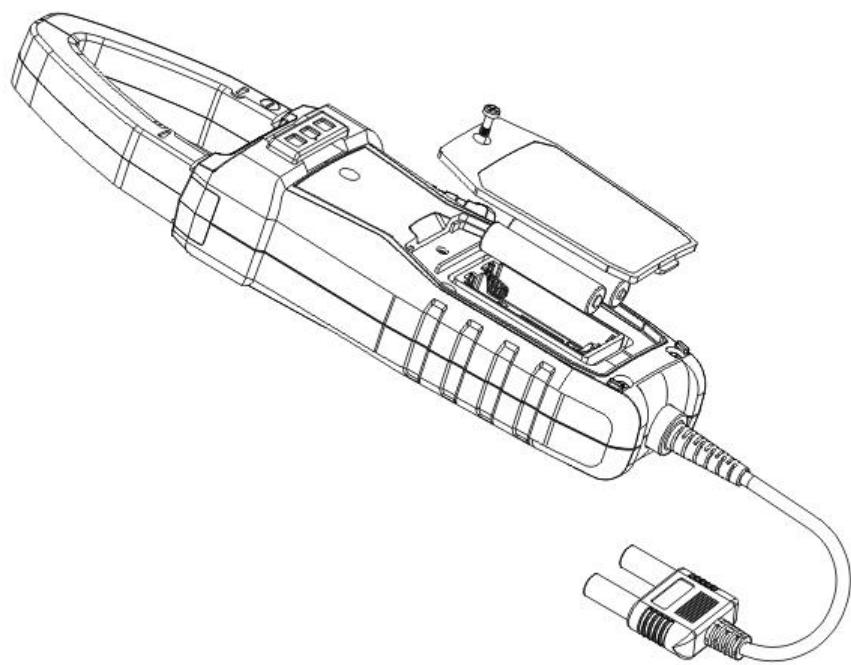

Figure 3
2. Battery installation and replacement (Figure 3)